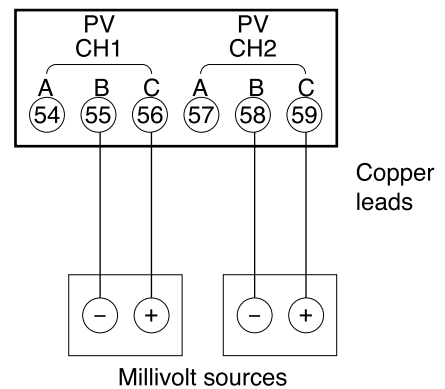

Figure 12-10. CJ, O₂ Sensor
- (1) Press **SETUP key** until the PROG/SEG display shows (02-01).
- (2) Connect the millivolt source between (55)(-) and (56)(+), and then input 0.2V (See Figure 12-10).
- (3) Press **ENTER key** after display stabilizes, AD count is shown on lower display.
- (1) Press **SETUP key** until the PROG/SEG display shows (02-02).
- (2) Connect the millivolt source between (55)(-) and (56)(+), and then input 1.0V (See Figure 12-10).
- (1) Press **SETUP key** until the PROG/SEG display shows (02-05).
- (2) Connect the millivolt source between (58)(-) and (59)(+), and then input 0.2V (See Figure 12-10).
- (1) Press **SETUP key** until the PROG/SEG display shows (02-06).
- (2) Connect the millivolt source between (58)(-) and (59)(+), and then input 1.0V (See Figure 12-10).